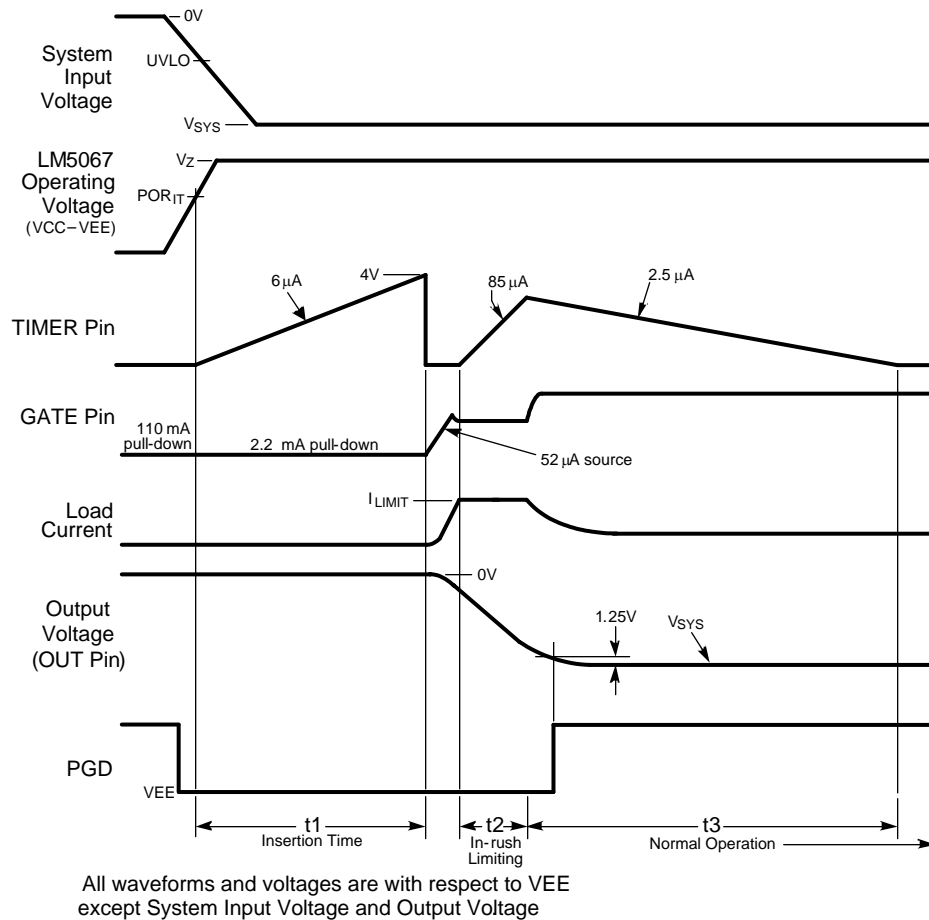

Figure 6. Power Up Sequence (Current Limit only)
The system voltage range of the LM5067 is -9V to -80V, with a transient capability to -100V. Referring to the Block Diagram, Figure 4, and Figure 6, as the system voltage (V_{SYS}) initially increases from zero, the external N-channel MOSFET (Q1) is held off by an internal 110 mA pull-down current at the GATE pin. The strong pull-down current at the GATE pin prevents an inadvertent turn-on as the MOSFET’s gate-to-drain (Miller) capacitance is charged. When the operating voltage of the LM5067 ($V_{CC} - V_{EE}$) reaches the POR_{IT} threshold (7.7V) the insertion timer starts. During the insertion time, the capacitor at the TIMER pin (C_T) is charged by a 6 μA current source, and Q1 is held off by a 2.2 mA pull-down current at the GATE pin regardless of the system voltage. The insertion time delay allows ringing and transients at V_{SYS} to settle before Q1 can be enabled. The insertion time ends when the TIMER pin voltage reaches 4.0V above VEE, and C_T is then quickly discharged by an internal 1.5 mA pull-down current. After the insertion time, the LM5067 control circuitry is enabled when the operating voltage reaches the POR_{EN} threshold (8.4V). As V_{SYS} continues to increase, the LM5067 operating voltage is limited at $\approx 13V$ by an internal zener diode. The remainder of the system voltage is dropped across the input resistor R_{IN} .
The GATE pin switches on Q1 when V_{SYS} exceeds the UVLO threshold (UVLO pin >2.5V above VEE). If V_{SYS} exceeds the UVLO threshold at the end of the insertion time, Q1 is switched on at that time. The GATE pin sources 52 μ A to charge Q1's gate capacitance. The maximum gate-to-source voltage of Q1 is limited by the LM5067's operating voltage (V_Z) to approximately 13V. During power up, as the voltage at the OUT pin increases in magnitude with respect to Ground, the LM5067 monitors Q1's drain current and power dissipation. In-rush current limiting and/or power limiting circuits actively control the current delivered to the load. During the in-rush limiting interval (t_2 in Figure 6) an internal current source charges C_T at the TIMER pin. When the load current reduces from the limiting value to a value determined by the load the in-rush limiting interval is complete and C_T is discharged. The PGD pin switches high when the voltage at the OUT pin reaches to within 1.25V of the voltage at the SENSE pin.
The external N-channel MOSFET is turned on when the GATE pin sources 52 μA to enhance the gate. During normal operation (t_3 in Figure 6) Q1's gate is held charged to approximately 13V above VEE, typically within 20 mV of the voltage at VCC. If the maximum V_{GS} rating of Q1 is less than 13V, a lower voltage external zener diode must be added between the GATE and SENSE pins. The external zener diode must have a forward current rating of at least 110 mA.
During the insertion time (t_1 in Figure 6) the GATE pin is held low by a 2.2 mA pull-down current. This maintains Q1 in the off-state until the end of t_1 , regardless of the voltage at VCC and UVLO.
Following the insertion time, during t_2 in Figure 6, the gate voltage of Q1 is modulated to keep the current or Q1's power dissipation level from exceeding the programmed levels. Current limiting and power limiting are considered fault conditions, during which the voltage on the TIMER pin capacitor increases. If the current and power limiting cease before the TIMER pin reaches 4V the TIMER pin capacitor is discharged, and the circuit enters normal operation. See Fault Timer and Restart for details on the fault timer.
A) Insertion Delay - Upon applying the system voltage (V_{SYS}) to the circuit, the external MOSFET (Q1) is held off during the insertion time (t_1 in Figure 6) to allow ringing and transients at V_{SYS} to settle. Since each backplane's response to a circuit card plug-in is unique, the worst case settling time must be determined for each application. The insertion time starts when the operating voltage (V_{CC-VEE}) reaches the POR_{IT} threshold, at which time the internal 6 μA current source charges C_T from 0V to 4.0V. The required capacitor value is calculated from: